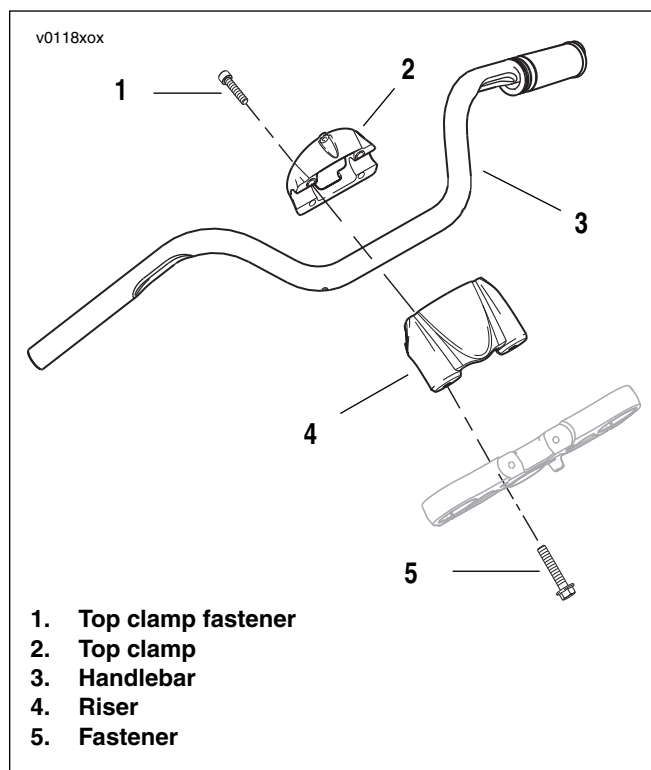

Figure 2-71. Top Clamp, Handlebar, and Riser
12. See Figure 2-71. Supporting the handlebars (3), loosen and remove the 4 fasteners (1) holding the top clamp (2).
13. Remove the handlebars (3).
15. If necessary, loosen and remove the two fasteners (5) securing riser (4) to upper fork clamp and remove the riser (4).
1. Install cast riser on upper triple clamp (4). Tighten fasteners to 41-47 Nm (31-35 ft-lbs).
4. Figure 2-71. Position handlebars for rider posture and hold in position.